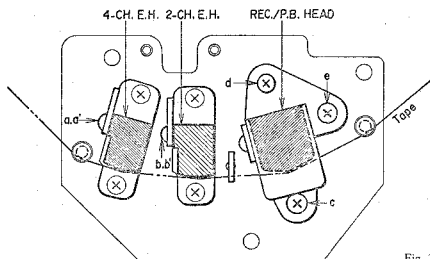

Fig. 3
1. Head Height Adjustment (See Figs. 3 and 4)
2. Recording/Playback Head Slant Adjustment (See Fig. 3)
3. Recording/Playback Head Azimuth Alignment Adjustment (See Fig. 3)